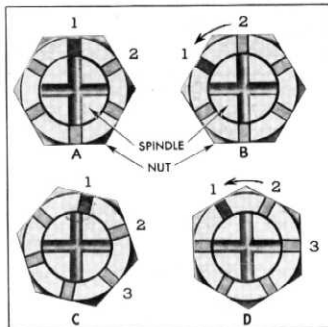

Fig. 14—Method of Adjusting Front Wheel Bearings
2. Check the location of a slot in the nut with reference to a hole in the spindle. If a slot in the nut lines up with either the vertical or horizontal holes in the spindle (see A, Fig. 14), back off the nut ($\frac{1}{8}$ turn) until the next slot in the nut lines up with the same hole in the spindle and insert cotter pin (see B, Fig. 14).
3. If, when the spindle nut is tightened to 33 foot pounds, the slot in the nut has passed beyond the vertical or horizontal holes in the spindle (see C, Fig. 14), back off the nut a sufficient amount (less than $\frac{1}{8}$ turn) to line up the second next slot in nut and the other hole in the spindle.
4. To illustrate this point the slots in the nut are indicated 1, 2 and 3 (see D, Fig. 14). If the slot marked 1 on the nut is slightly beyond the vertical hole in the spindle, the nut should be backed off until the slot marked 3 is in line with the horizontal hole in the spindle. It will be noted that the nut has been backed off slightly less than $\frac{1}{8}$ turn.